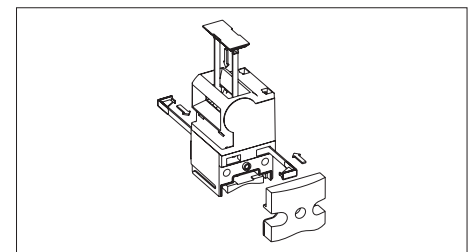

Fig. 2: Fitting the locking pins and the slot cover
3. Fit locking pins supplied for protection against twisting (Fig. 2). It is then not possible to change the actuating direction again.